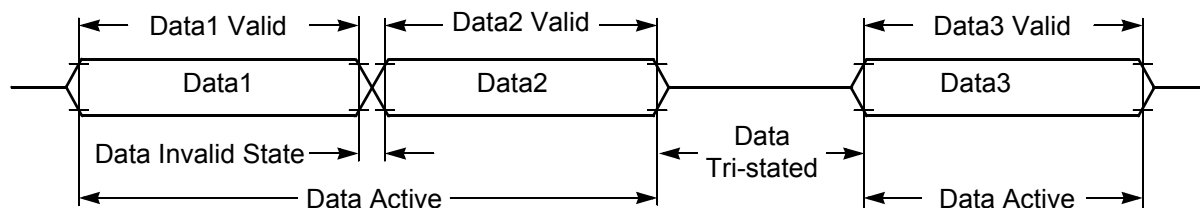

Figure 3-5 Signal States
**Figure 3-5** shows the definitions of the following signal states: